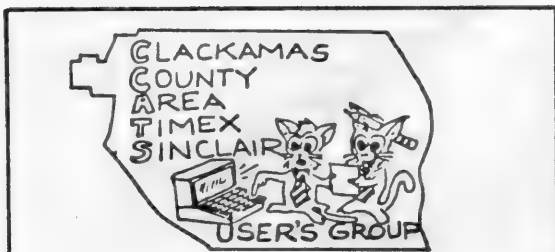

figure no. 1
In the RAMTOP article we examined the four addresses below RAMTOP, using the PEEK command. A diagram of the values found in these four addresses is in Figure No. 1. In the same manner we examined the contents of the system variable ERR SP and found that it pointed to the address RAMTOP-4. The TS 1500 Users Manual defines the system variable ERR SP as the address of the first item on the M stack. The bottom of the GS stack is this address plus two (2). The Stack Pointer (SP) consists of two internal registers. The contents of the SP registers normally point to the address of the low byte of the last
Figure No. 1 shows the situation after the computer is initialized and after each BASIC line has been executed. The one exception that I know about is after one or more GOSUB commands and before any RETURN command. For an example of the exception, enter the following lines into the computer (after entering NEW):
RUN the program. If you PEEK the four addresses below RAMTOP and ERR\_SP you will find that their contents are again the same as Figure No. 1. If the two bytes of the first item on the GS stack (0 and 62) and the two bytes of the first item of the M stack (118 and 6) are in conjunction as in Figure No. 1, and a RETURN command is encountered in the BASIC program, then an error report 7 (RETURN without a corresponding GOSUB) is generated. The ROM rou-